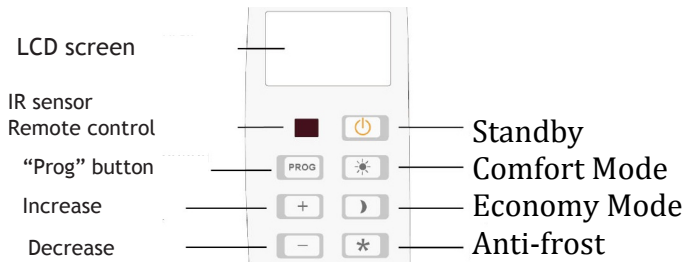

Fig. 13
- 4) When in “Standby” mode (Fig. 15), press the “Standby” button to switch the heater on (Figure 13). The heater comes on and the last selected operating mode symbol appears on the screen. In addition, the approximate room temperature is displayed.
The heater controls can be unlocked by pressing the "+" and "-" buttons on the control panel for three seconds (Figure 13) or on the remote control.
When in manual mode, the desired heating mode can be selected (comfort, economy or anti-freeze) by pressing the corresponding button (Fig. 13) and the heater will permanently operate in any of these modes with the assigned temperatures.
- Press the Comfort mode button (Figure 13).
- Press the Economy Mode button (Figure 13).
- Press the Anti-freezing Mode button (Figure 13).
The heater operation can be disconnected by pressing the "Standby" button (Fig. 13).